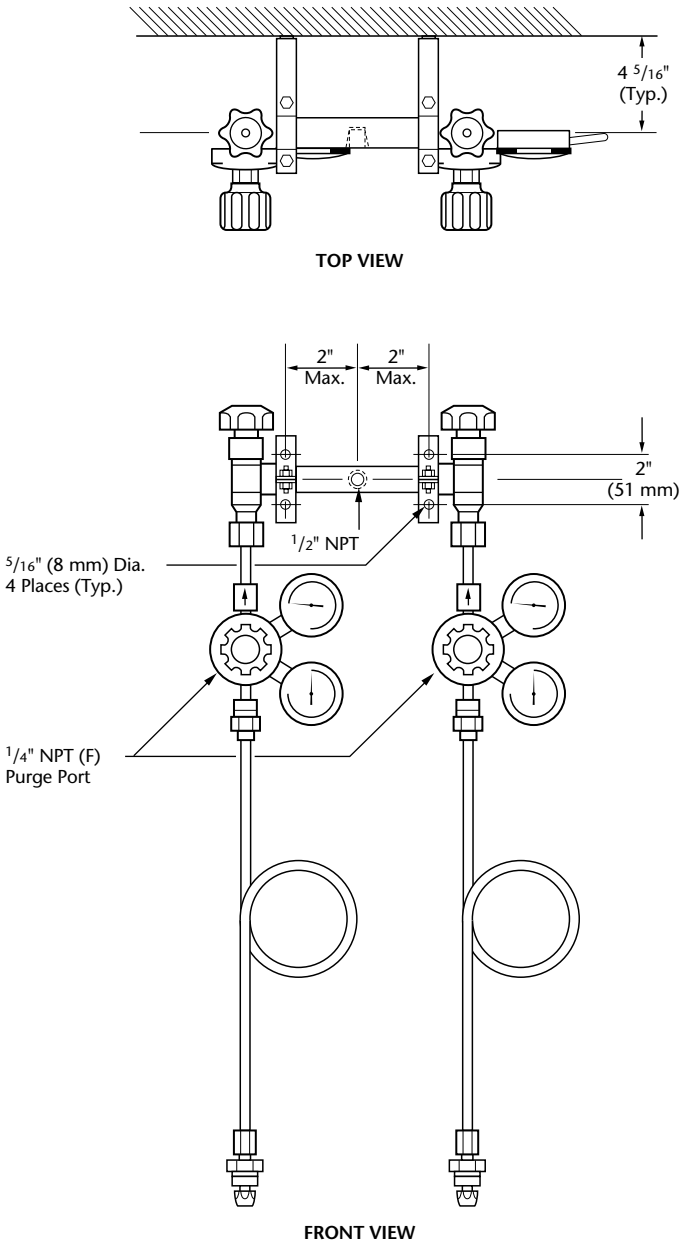

Figure 2 – Mounting Dimensions for Semi-Automatic Main Header Section
1. Securely mount the outlet block of the changeover section on a wall. Mounting dimensions are shown in Fig. 2 (page 6). The changeover mounting brackets for the outlet block should be located approximately 12 to 15 inches above the centerline of the manifolds or cylinder valve outlets. The single row manifold outlets (or cylinder valves if AC-2 is installed) should be located approximately 10 to 12 inches outward from the regulator hand knobs.